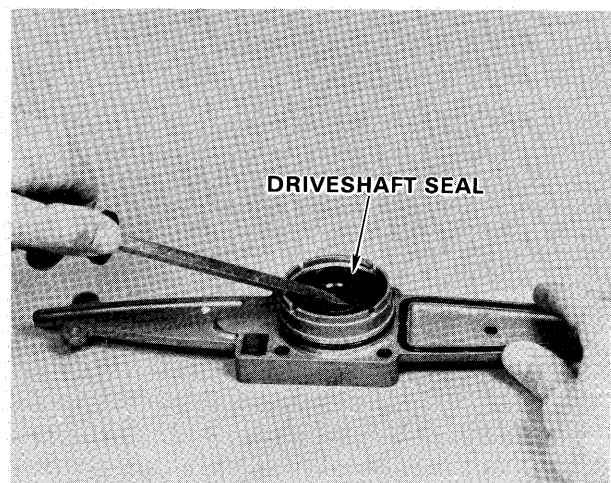

Figure 8—Removing Driveshaft Seal
- B. Pry driveshaft seal from bore in gear housing cover as shown in figure 8.